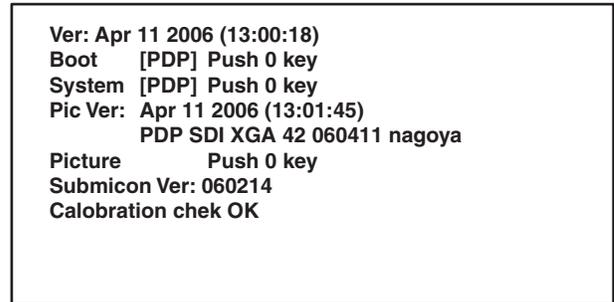

Fig. 3
- Press [SLEEP] button on the service remote control unit. Fig. 3 appears on the screen.